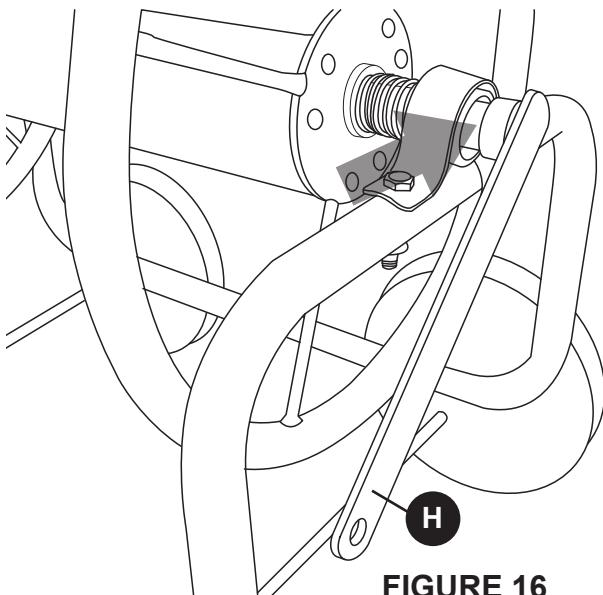

FIGURE 16
16. Attach the crank handle (H) to the spring loaded spool end and hand tighten. **DO NOT OVER TIGHTEN.** See Figure 16